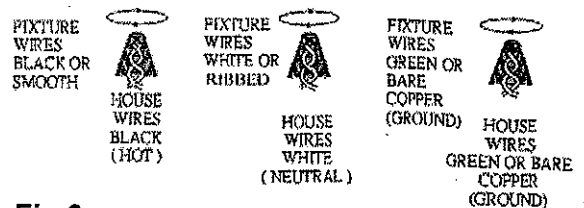

Fig.3
CONNECTING THE WIRE (See fig.3)
1. At this point, connect the electrical wires as shown in Fig. 3, making sure that all wire connectors are secured. If your outlet box has a ground wire (green or bare copper), connect the fixture's ground wire to it. Otherwise, connect the fixture's ground wire directly to the cross bar using the green screw provided.
2. Tuck the wire connectors neatly into the ceiling outlet box and raise the canopy(U) and collar ring (Y). Then thread collar ring (Y) onto collar loop (T) protruding through canopy.